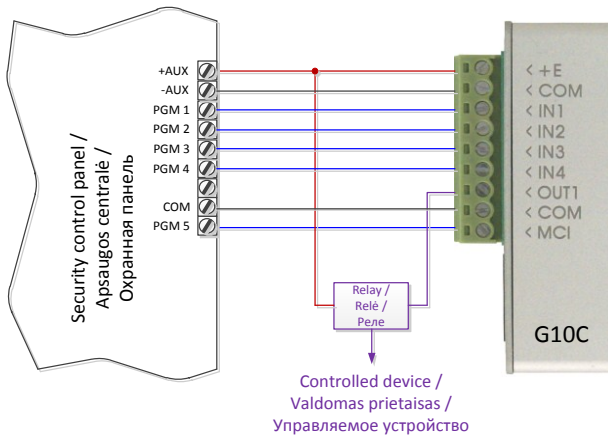

Fig. 1. General wiring diagram for connection to the security control panel, when constant input status control mode (24 h) is set.
- a) *Constant input control mode (24 h)*. After the security control panel has changed the state of its PGM output, module input circuit is also disturbed. The module *G10C* immediately sends a report about this event to the monitoring station. When the security control panel restores its PGM output status, the status of module input external circuit is also restored. The module will send a report about this event. A general wiring diagram is given in Fig. 1.